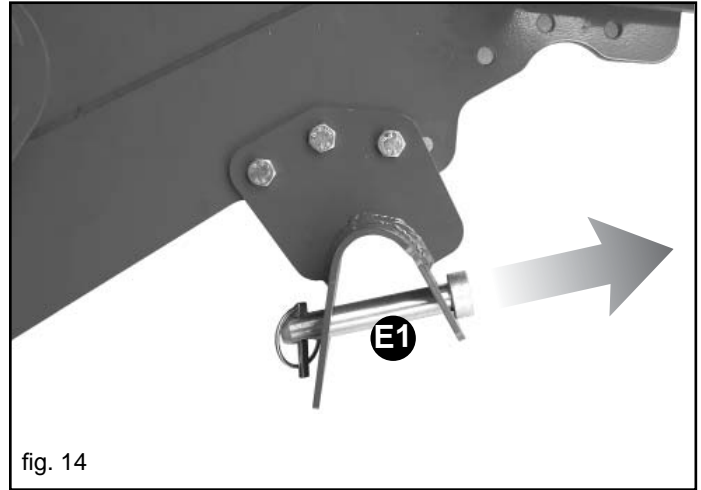

fig. 14
- 2) Replace the snap pins and release the safety pins (E1, Fig. 14).
- 2) With the machine raised, insert the props to ensure the stability of the seed drill and remove the safety pins (E1, Fig. 14).